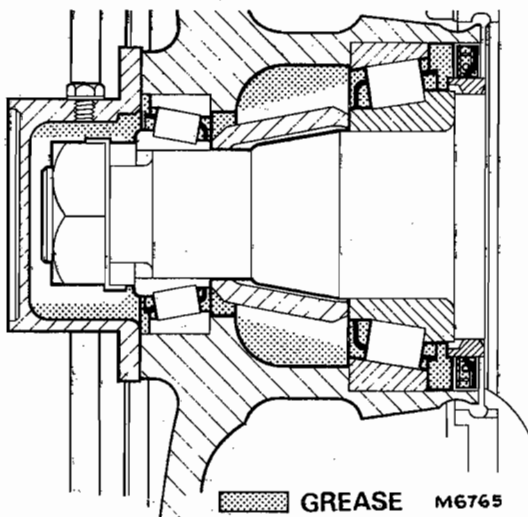

FIG. 6 HUB GREASING M6765
9. Knead grease as specified in Group 1 well into the bearings and partly pack the cavity between the inner bearing and oil seal as shown in Fig. 6. The shaded areas in this illustration indicate where grease is to be applied.